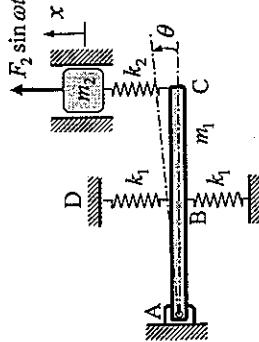

Figure 6
4. Figure 6 shows a 2-DOF vibrating system in its static equilibrium configuration. The system consists of a rigid beam ABC of length l and mass m_1 , pinjointed at A and supported by two springs of same stiffness k_1 at the mid-section of the beam at B. The beam carries a spring-mass system of mass m_2 and spring stiffness k_2 at C. Mass m_2 is subjected to a harmonic force excitation of amplitude F_2 at excitation frequency ω . (5 marks)